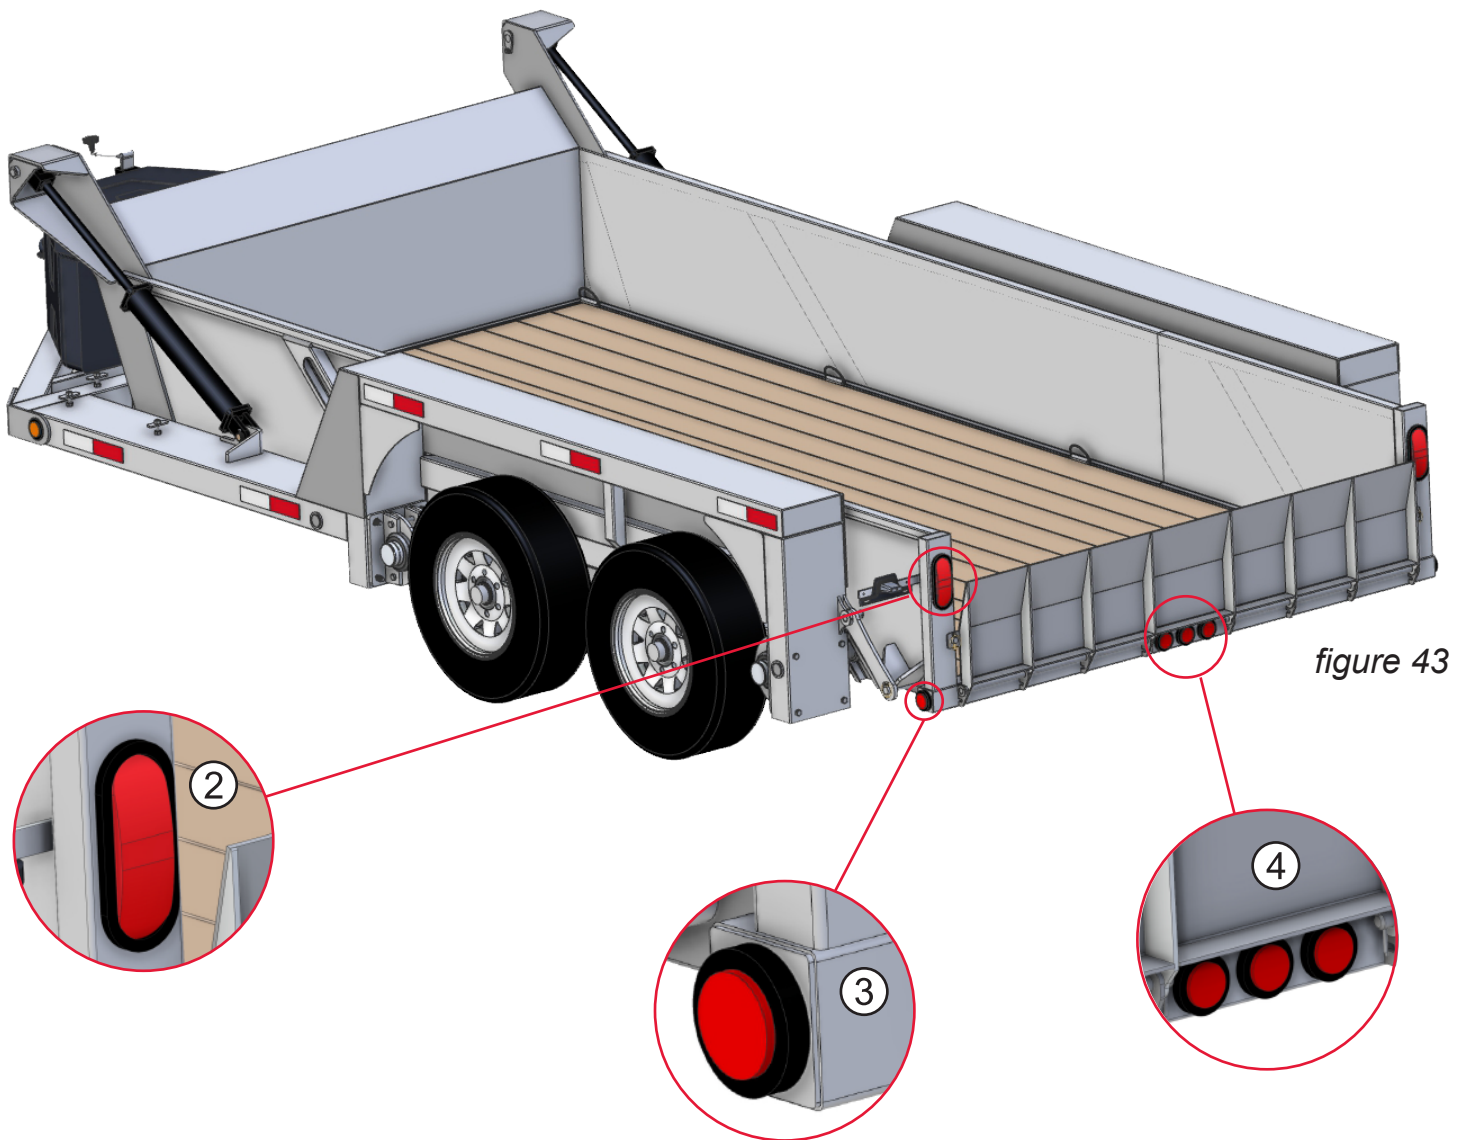

figure 43
2. REAR OVAL RED LIGHTS - 1 PER SIDE (See figure 43):
3. REAR RED LIGHTS - 1 PER SIDE (See figure 43):
4. REAR RED LIGHTS - 3 IN CENTER OF BUMPER (See figure 43):